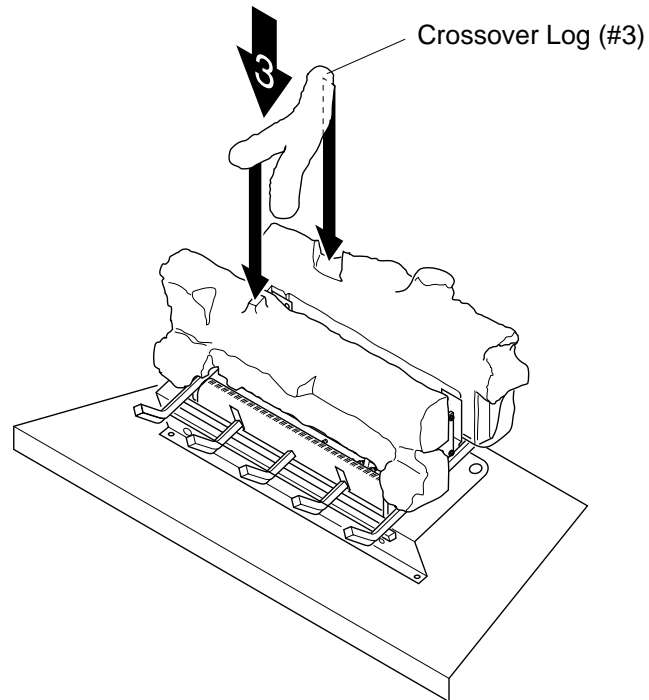

Figure 23 - Installing Crossover Log
3. Place crossover log (#3) into place (see Figure 23). Be sure to place back of crossover log into notch on left side of rear log. The indentation under front left fork of crossover log must rest on rectangular knob of front log.